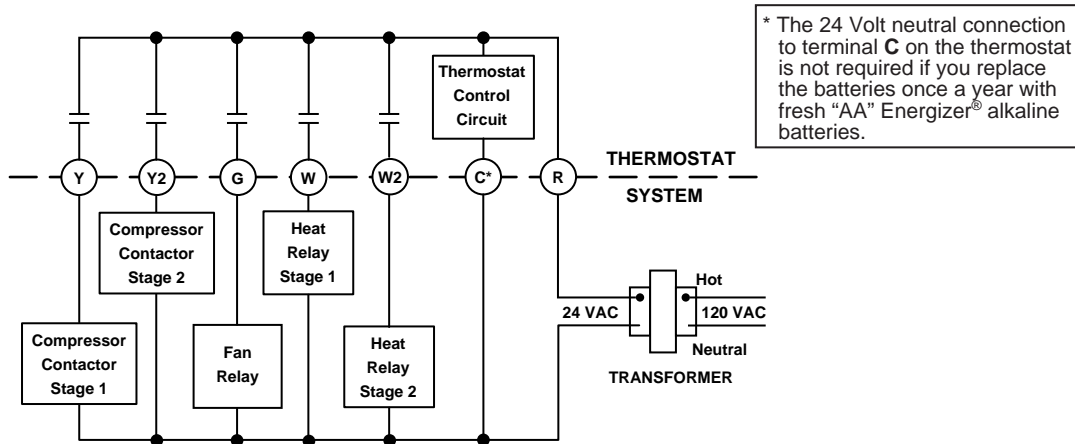

Figure 3. Typical wiring diagram for single transformer systems
5. Check that the **SYSTEM** switch is in the **OFF** position. Connect the wires beneath the terminal screws on the base using the appropriate wiring diagram (see figs. 3 through 5).